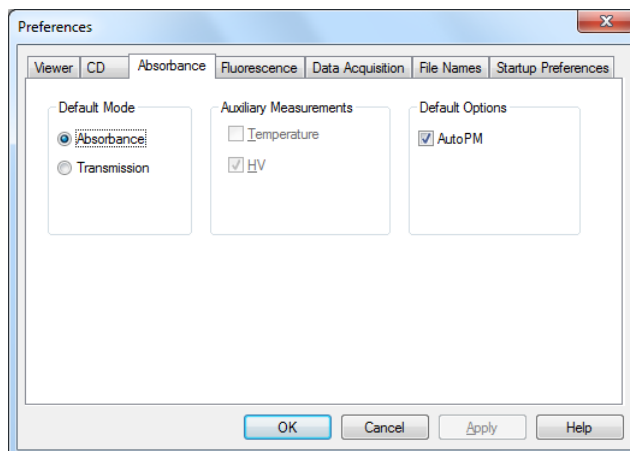

Figure 4.32: the Absorbance tab
On the **Absorbance** tab (Figure 4.32), preferences for absorbance measurements can be set. In the **Default Options** panel, select to measure spectra either at constant detector high-voltage (HV) (**AutoPM** not selected) or at an HV (Chirascan) or emulated HV (Chirascan-plus) that is automatically optimized at each point in the spectrum (**AutoPM** selected). Constant HV or emulated HV will normally give the more accurate absorbance measurement because there is no risk of hysteresis associated with sharp changes in the detector HV or HV but you must be careful to ensure that the detector is not saturated during the measurement. Selecting **AutoPM** will remove that possibility and because there are unlikely to be big changes in HV or emulated HV from one point to the next, using **AutoPM** will not degrade the absorbance measurement in any significant way. It is recommended that this option is selected.